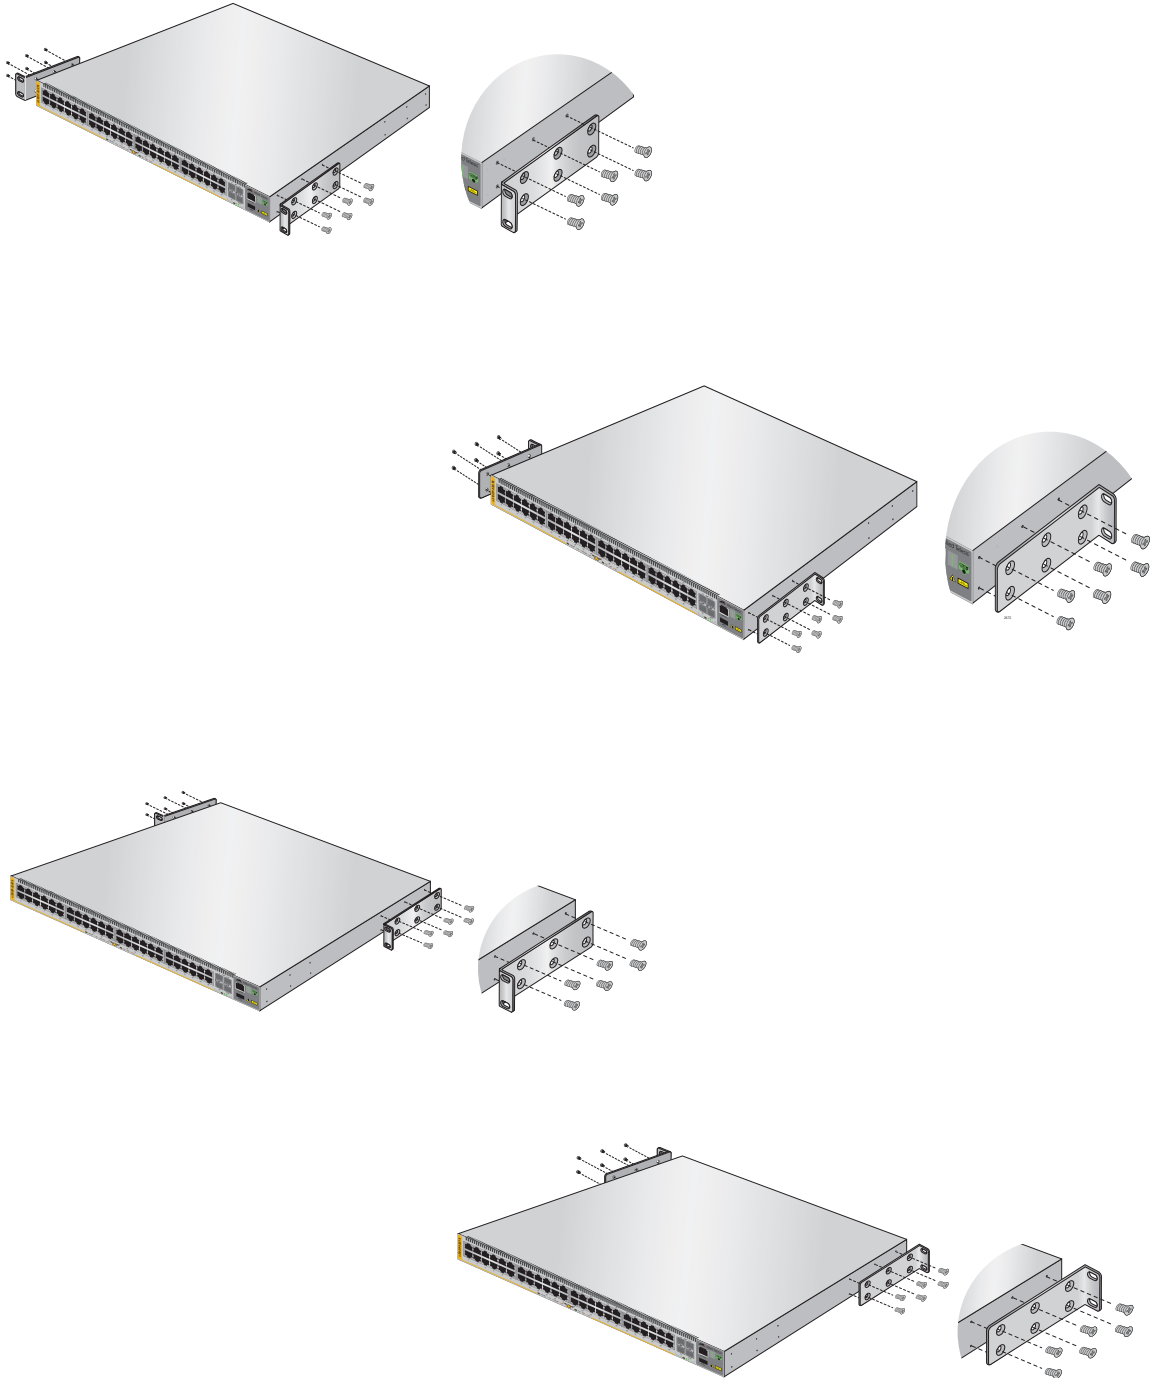

Figure 27. Attaching the Equipment Rack Brackets
4. Attach the two rack mount brackets to the sides of the switch using the bracket screws included with the unit. Figure 27 on page 67 illustrates the four possible bracket positions.